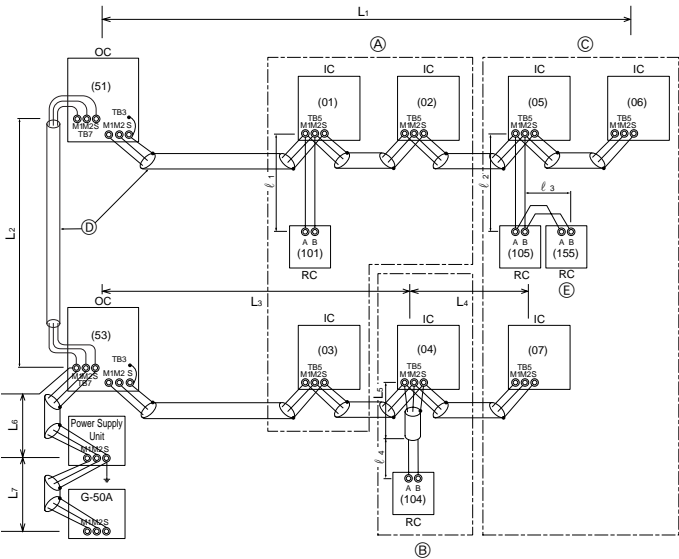

Fig. 6-2
■ M-NET Remote Controller (Fig. 6-2)